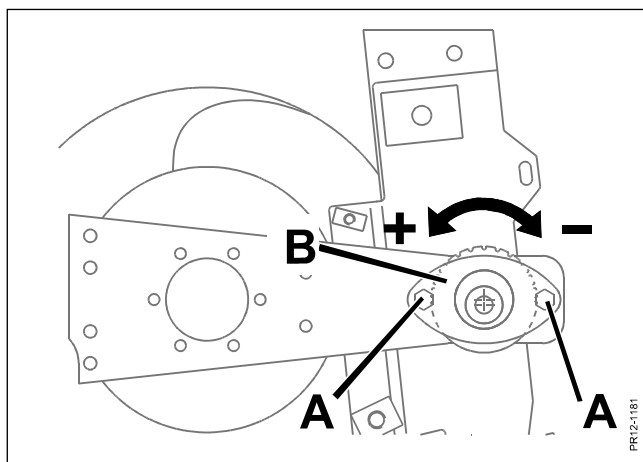

Fig. 7-8
**Fig. 7-8** Two bolts **A** must be loosened to allow the eccentric **B** to be turned with a screwdriver, etc. Turn in the **+** direction in order to tighten and in the **-** direction to loosen.